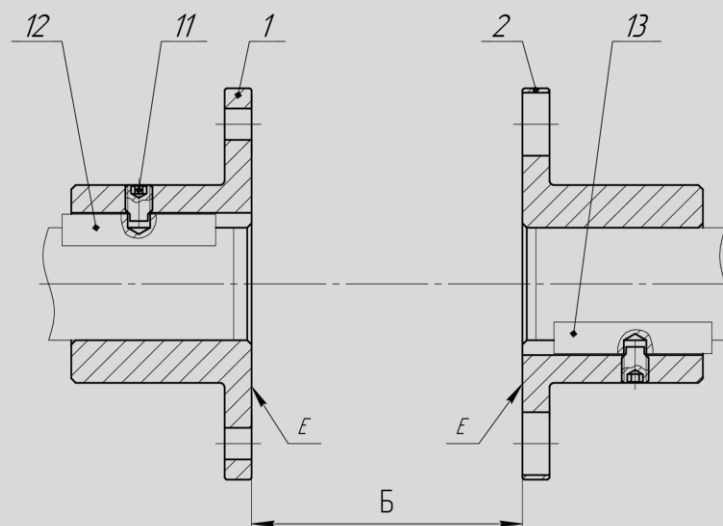

Figure 3
5.1.4. The key-way in the motor hub 1, 2 must be carried out so it is located opposite the one of the hub installation holes in the hub. The relative position of parts at initial assembly is fixed by marks. In the motor hub make a threaded hole for screw 11 (Fig.3) intended to fix possible axial displacements of the motor-hub. The hole must be located opposite the hub key-way.
5.2.9. Fix hub **1** with screw **11** on the motor shaft in the axial direction. The end of the shaft should go beyond the end surface of hub **1** (**Fig. 3**).